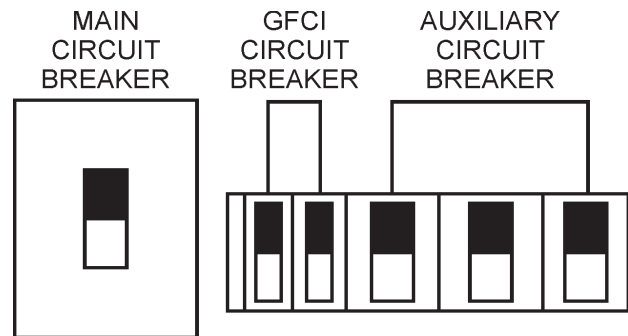

Figure 52. Main, AUX. and GFCI Circuit Breakers (ON)
17. Turn the **main**, **GFCI**, and **aux.** circuit breakers to the "ON" position (Figure 52).